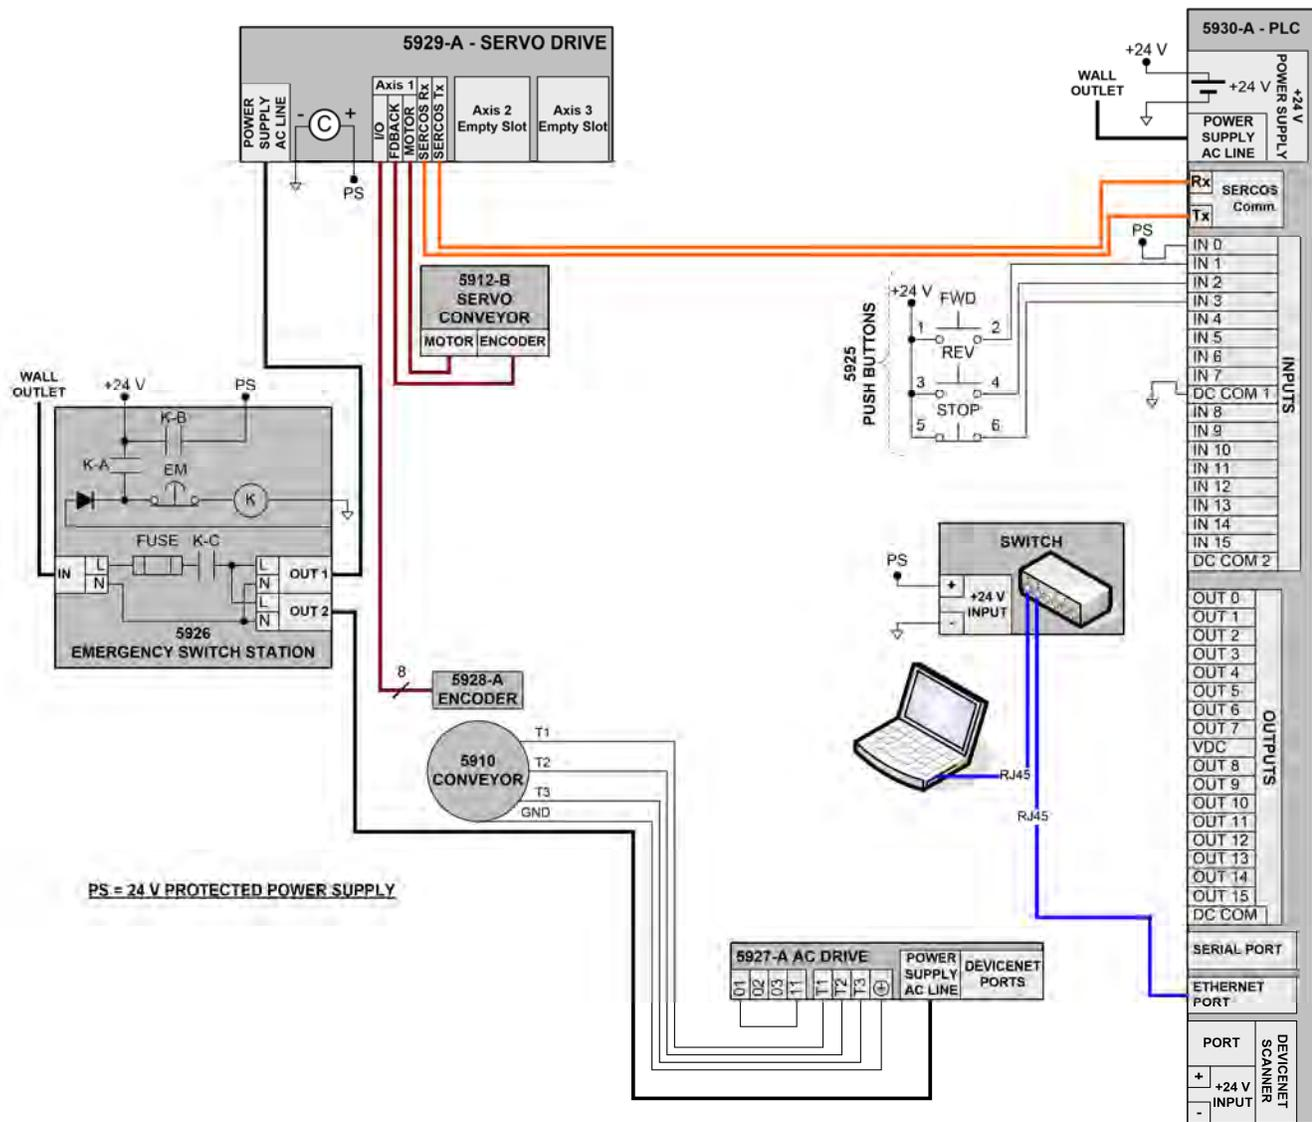

Figure 33. Gearing the Servo Drive to the Conveyor wiring diagram.
3. Connect the equipment as shown in the wiring diagram presented in Figure 33. Do not forget to connect the Conveyor Optical Encoder to the Servo Drive.